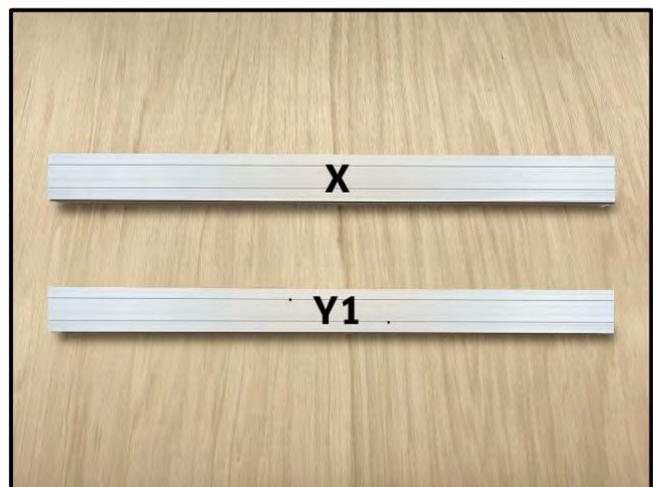

Figure 18
- Pre-Dec 2019 extrusion rails. See **Fig. 18**.